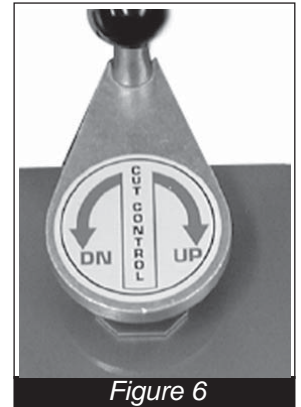

Figure 6
- Pull knob up on the Depth Control Handwheel (*Figure 6*), slowly turn Handwheel in DOWN direction (counter clockwise) until blade comes in contact with slab surface.